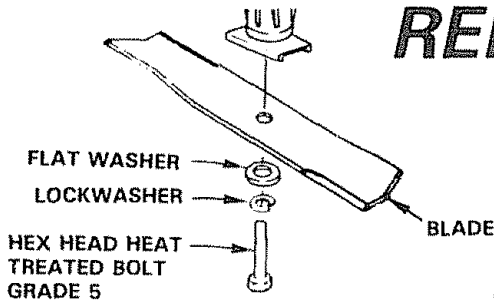

FIGURE 49
- Remove the hex head bolt, lockwasher and flat washer (Fig. 49).